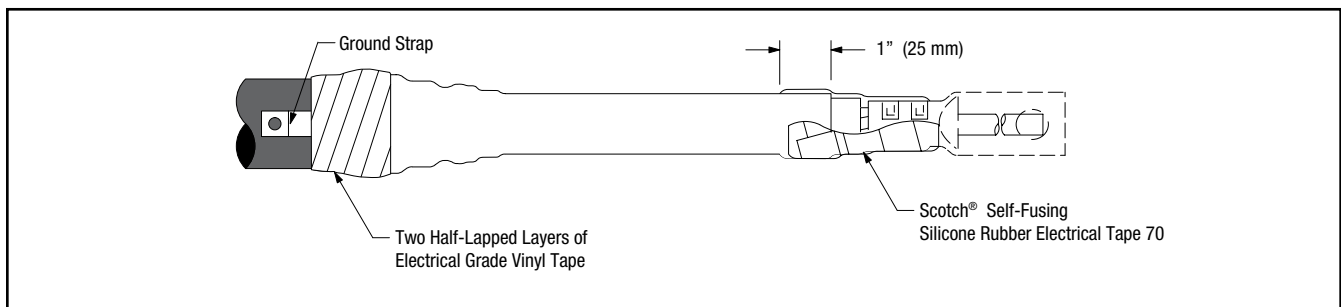

Figure 8
- f. Wrap two highly stretched half-lapped layers of electrical grade vinyl tape around mastic seal (Figure 8). Overlap the edges of the mastic seal by 1/2" (13 mm) minimum.